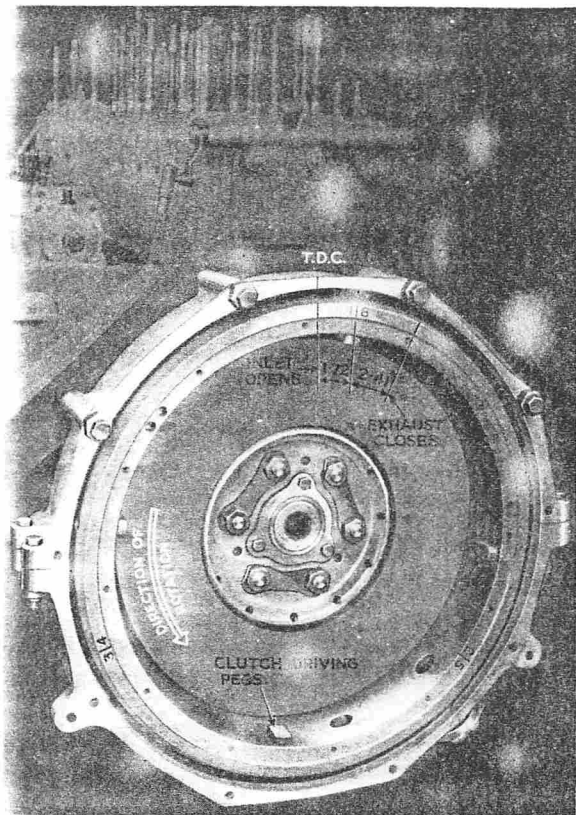

FIG. 13. VALVE TIMING MARKS ON FLYWHEEL
3. Now turn the engine until the inlet valve of No. 1 cylinder just opens. To check when the inlet valve is just opening, hold the valve collar between thumb and forefinger and attempt to turn. When the valve lifts off its seat, the collar will turn. If the timing is correct, the piston should be 1.72 in. (43.7 mm.) before T.D.C. measured on the flywheel rim (Fig. 13).